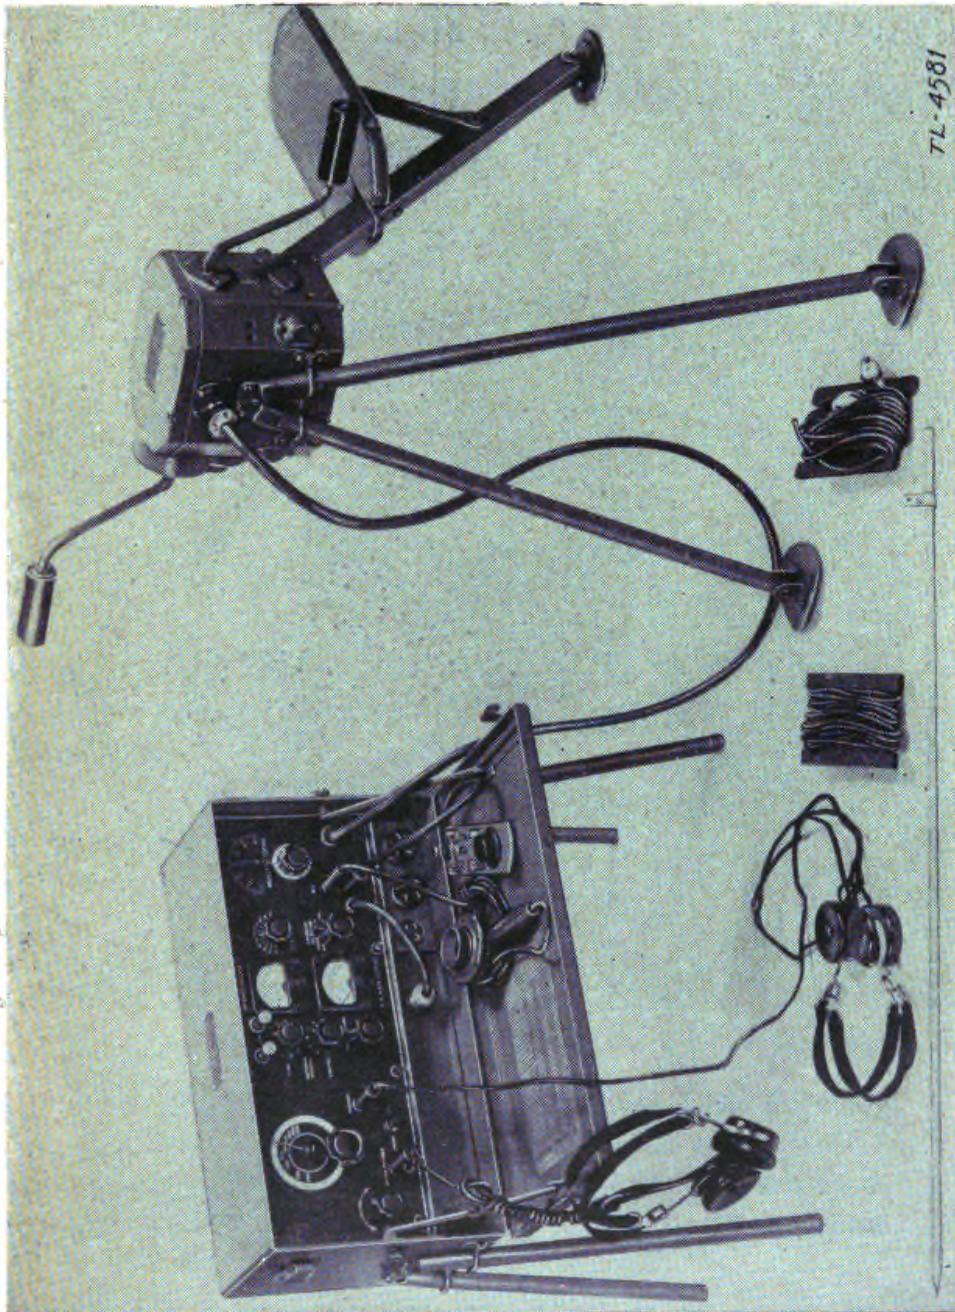

FIGURE 1.—Radio set SCR-288.
1. General.—Radio set SCR-288 (fig. 1) is a portable amplitude-modulated transmitting and receiving set. The transmitter is designed to operate within the frequency range of 3,500 to 6,300 kilocycles and to deliver 4 watts of power into the antenna for either voice-modulated (phone) or continuous-wave (c-w) operation. The receiver is designed to operate within the frequency range of 2,300 to 6,500 kilocycles on either voice-modulated, tone-modulated, or continuous-wave operation. The approximate reliable communication range is 15 miles for continuous-wave operation and 8 miles for voice-
3. Radio receiver and transmitter BC-474-A.—This unit is housed in a spot-welded aluminum alloy cabinet. Four removable legs are provided so that when set up for operation the equipment is about 12 inches above the ground. The lid of the cabinet is hinged and opens downward, thus making a shelf which provides space for writing and for holding the telegraph key. The receiver and transmitter components are mounted on a single panel and on a chassis which is located in the upper part of the cabinet. The battery pack and filter are located directly under the receiver-transmitter chassis. The filter permits the receiver to be operated by power received from the hand-driven generator. (See fig. 1.)
5. Filter FL-10.—The parts comprising the filter are mounted in a small aluminum box of such size and shape that when in use it may be placed in the lower compartment of the receiver-transmitter case adjacent to the battery pack. (See figs. 1 and 4.)
6. Component parts.—The following is a list of component parts used in radio set SCR-288 (see figs. 1, 2, 3, and 4):